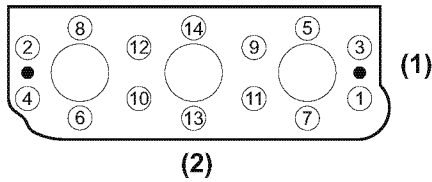
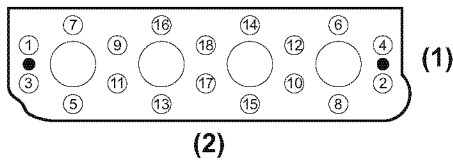

Figure 5-41
Figure 5-42
- (a) Loosen the cylinder head bolts in two steps in the illustrated order (**Figure 5-41**) and (**Figure 5-42**).